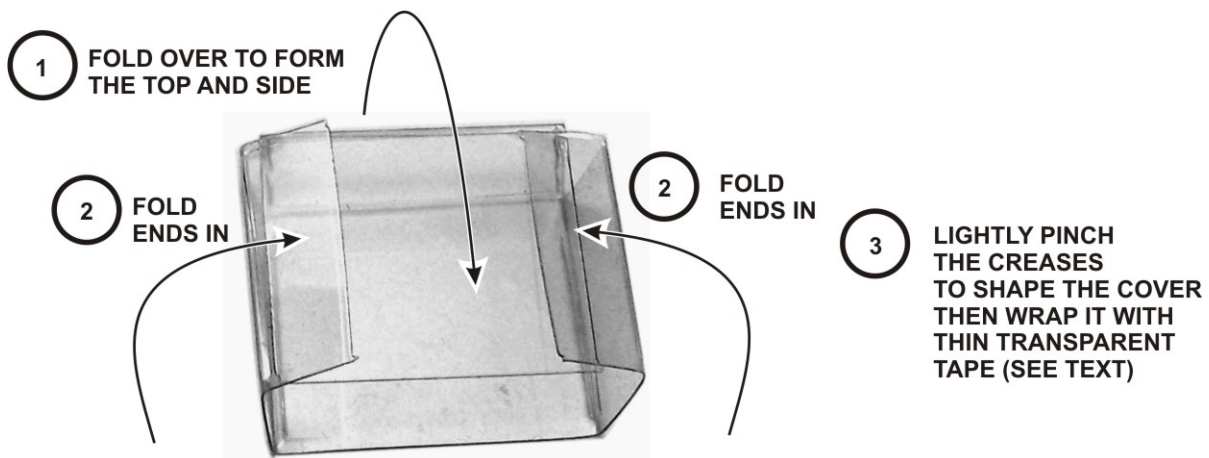
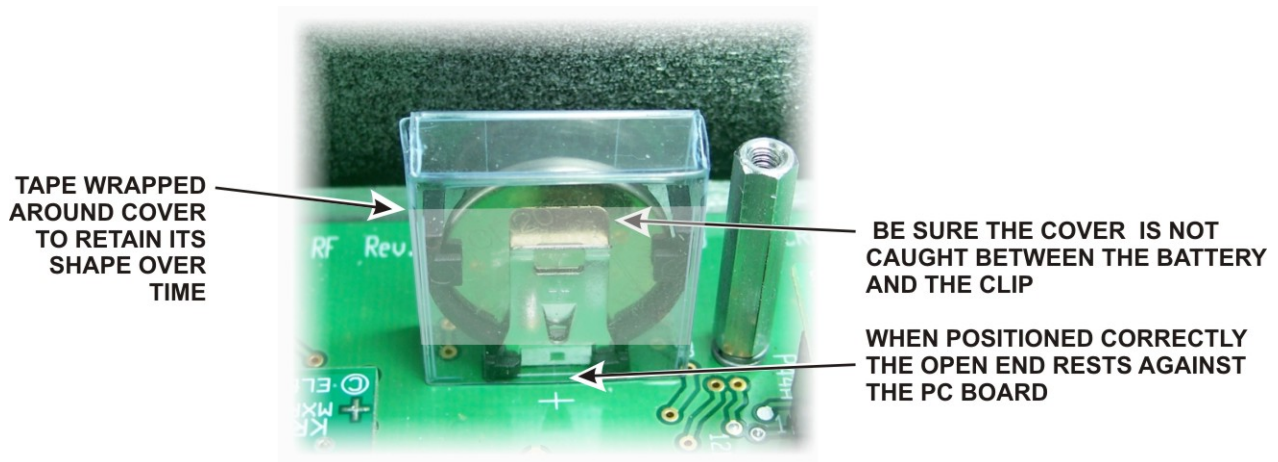

Figure 43. Folding the Battery Cover.
Figure 44. Installing the Battery Cover
The exposed rim of Battery BT1 on the K3 main RF board must be insulated to prevent shorting against the bottom of the KRX3 enclosure. A plastic battery cover is provided. Fold the battery cover as shown in Figure 43. Pinch the creases to set the bends to form a rectangular box with one open end, then wrap the cover with thin transparent tape such as Scotch® Magic™ mending tape (see Figure 44). The tape ensures the cover holds its shape over time.
□ Place the battery cover on BT1 on the K3 RF board as shown in Figure 44. Hint: gently squeeze the narrow ends of the cover to make the sides bow outward to fit over the battery clip more easily. The cover is held in place by friction against the battery holder and will be trapped under the KRX3 enclosure.
- Check to ensure the battery cover is in place protecting the top of the battery from contact with the KRX3 enclosure (see Figure 44). The top edge of the battery is the positive terminal, and touching the enclosure during installation will short-circuit the battery.